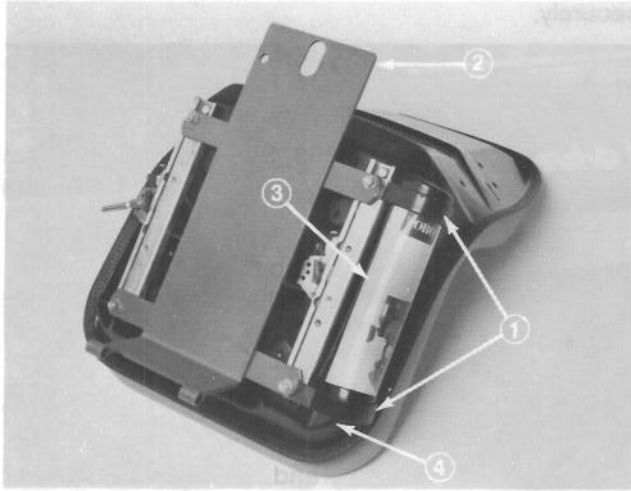

Figure 8
8. (Model 30741) Reinstall sealing plate to frame, above fuel tank with flange screw, truss head screw, (2) locknuts and spacer previously removed.
10. Loosely secure (2) R-clamps to right side of seat bottom with (2) capscrews supplied in kit (Fig. 8). Install manual tube into R-clamps and tighten capscrews (Fig. 8).
13. Mount seat pivot bracket to frame with (2) flange screws supplied in kit (Fig. 8)